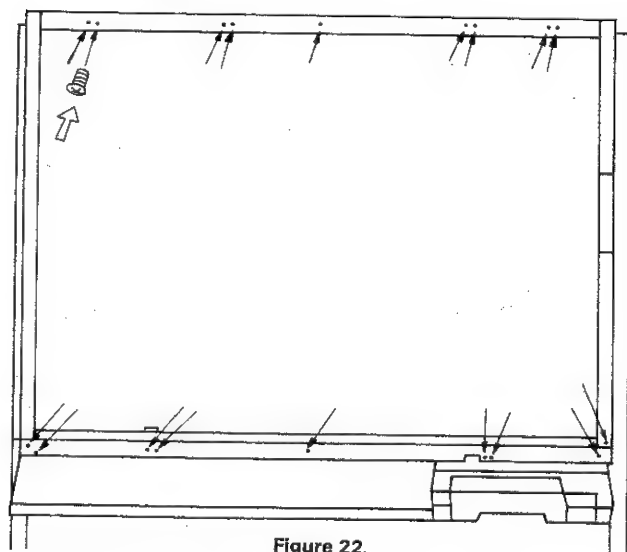

Figure 22.
- (2) Remove the nine screws at the bottom of the board. (Figure 22)